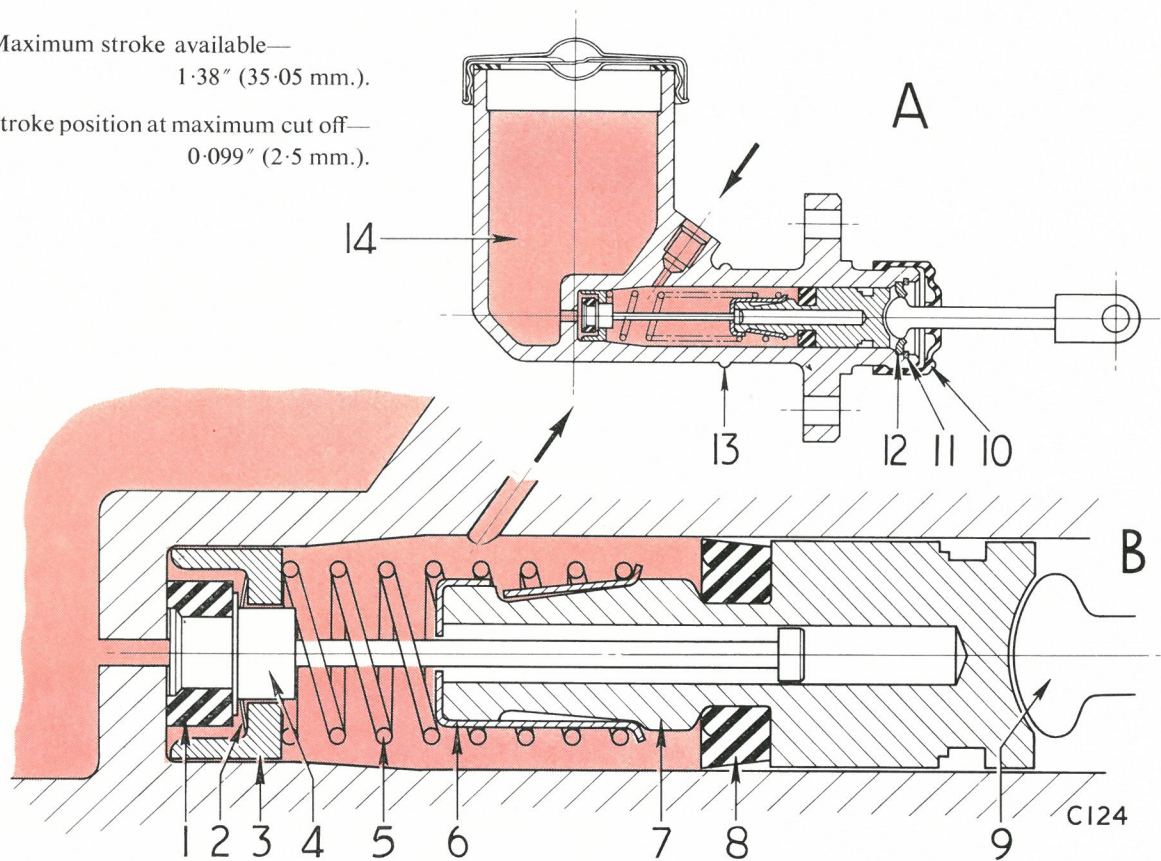

Fig. 4. Section through clutch master cylinder
Clutch Master Cylinder (Figs. 4 and 5)**Removal**
1. Refit the seals (1) and (8) to items (4) and (7) as shown on Fig. 4.
2. Fit the spring (2), distance piece (3) and spring (5) to the valve shank (4), attach the spring retainer (6) and fit the assembly to the plunger (7). Lubricate the components with clean hydraulic fluid and fit them to the master cylinder bore. Fit the push rod (9) with stop plate (12), circlip (11) and dust cover (10).